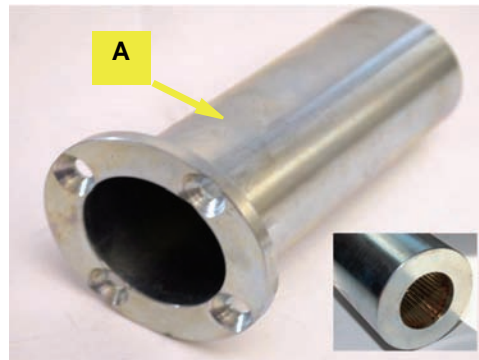

Figure 2a: Splined shaft adapter (coupler)
- a. Apply anti-seize (not supplied) to the splines of the splined shaft adapter (coupler) **A** to facilitate later removal (Figure 2a).